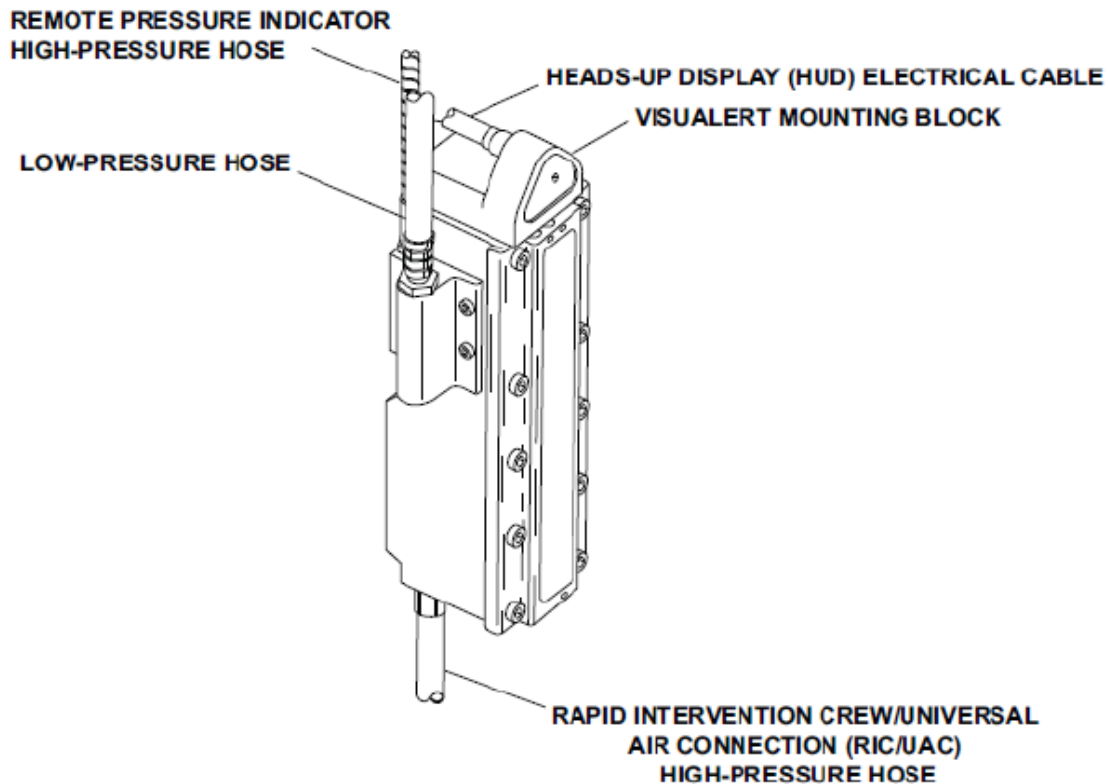

Figure 551-88L-2049_14
(5) Check the facepiece, (Figure 551-88L-2049_15).